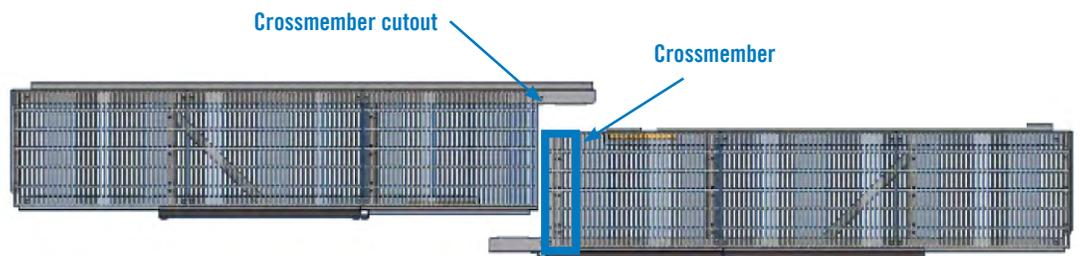

Figure 13.
- c. Slide the platforms until the crossmember cutout is aligned with the crossmember of the second section. Then slide the two sections together until the support beams are aligned, and the crossmember is seated into the cutout. See **Figure 13.**